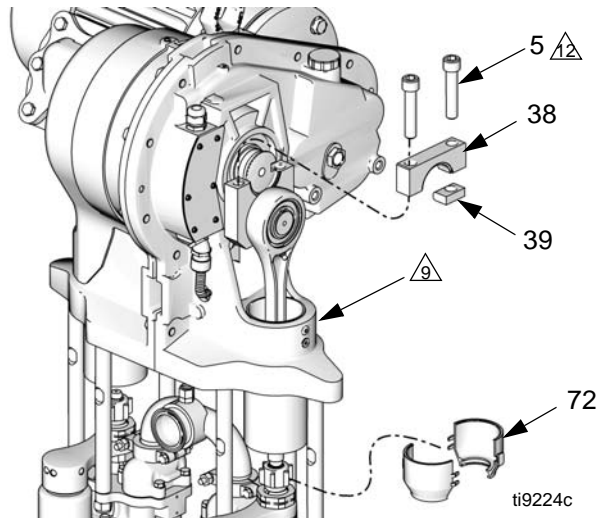

FIG. 6. Remove Crank Arm Cap
- d. Using a 1-5/8 in. open-end wrench, unscrew the coupling nut (14) from the slider piston (9) and let it slide down onto the pump piston rod. Be careful not to lose the collars (13).
- e. See FIG. 6. Using a 1/2 in. hex driver, unscrew the two cap screws (5). Remove the crank arm cap (38) and key (39). If necessary, use a plastic hammer to break these parts loose.
1. Position the crank arm (4) to engage the output shaft (OS), and rotate it to the bottom of the output shaft.
2. Place a clean rag over the top of the slider cylinder (2) to prevent debris from falling into the slider assembly during reassembly.
3. See FIG. 6. Apply antiseize lubricant (LPS[®]-04110 or equivalent) to the threads of the cap screws (5). Install the key (39), crank arm cap (38), and cap screws (5), oriented as shown. While the gap-side screw is still loose, torque the key-side screw to 210-230 ft-lb (283-310 N•m). Then torque the gap-side screw to 210-230 ft-lb (283-310 N•m). Torque screws an additional 2-3 times each, or until they stop turning when torqued to 210-230 ft-lb (283-310 N•m).
4. Ensure that the collars (13) are in place in the coupling nut (14).
5. Place a 3/4 in. wrench on the flats of the slider piston (9), to keep it from turning when you are tightening the coupling nut (14). Orient the wrench so it is braced against one of the tie rods (3) or the pump stand. Tighten the coupling nut (14) onto the slider piston (9) and torque to 75-80 ft-lb (102-108 N•m).
6. Install the shields (72) by engaging the bottom lips with the groove in the wet-cup cap. Snap the two shields together.